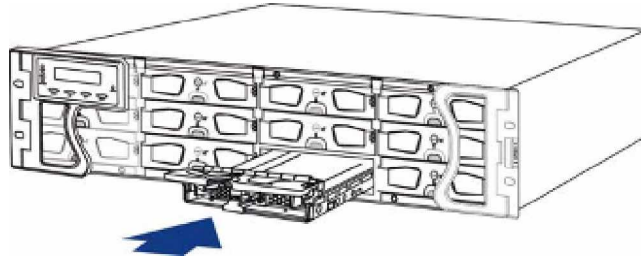

Figure 2-6: Installing a Drive Tray
Step 3. Align the drive tray with the slot in which you wish to insert it. Make sure that it is resting on the rails inside the enclosure, and then gently slide it in. This should be done smoothly and gently. (See **Figure 2-6**)